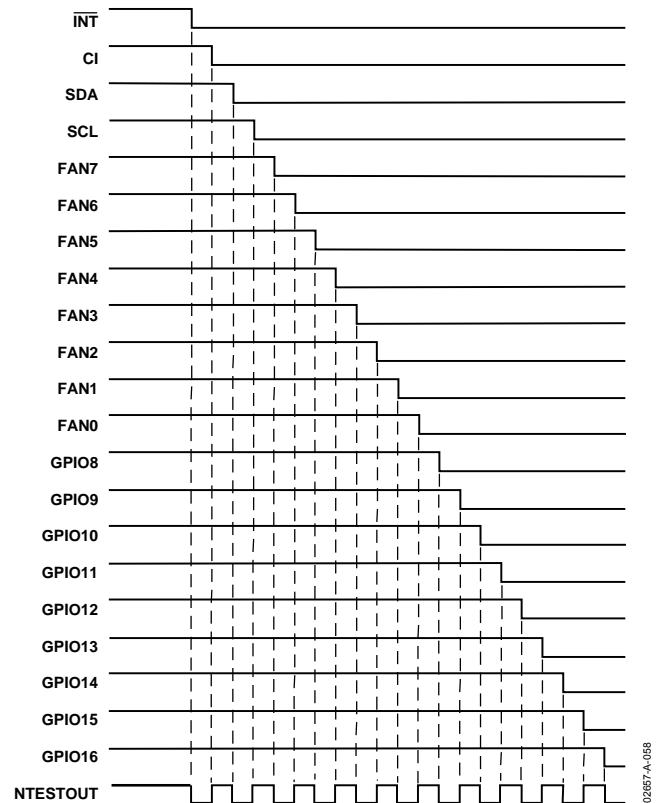

Figure 58. NAND Tree Test Taking Inputs Low in Turn
2. Start with all inputs high and take them low in turn, starting with the input furthest from NTEST_OUT ($\overline{\text{INT}}$) and working down the tree to the input nearest to NTEST_OUT (GPIO16/ $\overline{\text{THERM}}$). This should give a similar output pattern to Figure 58.